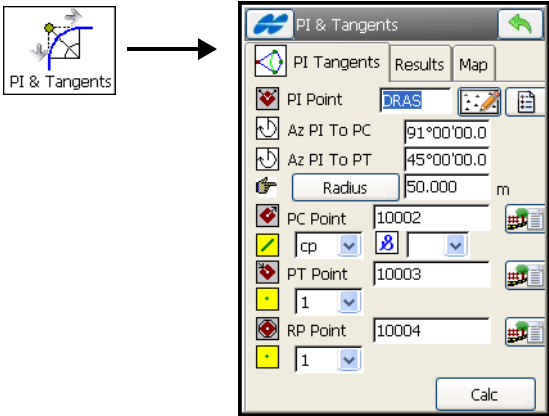

Figure 14-28. PI & Tangents
To compute the PC point, the PT point and the center (Radius Point) of a Curve, given the Point of Intersection (PI), the radius, and the azimuths from the PI point to the PC, and PT points respectively, tap the **PI & Tangents** icon. The **PI & Tangents** screen displays (Figure 14-28 on page 14-23).